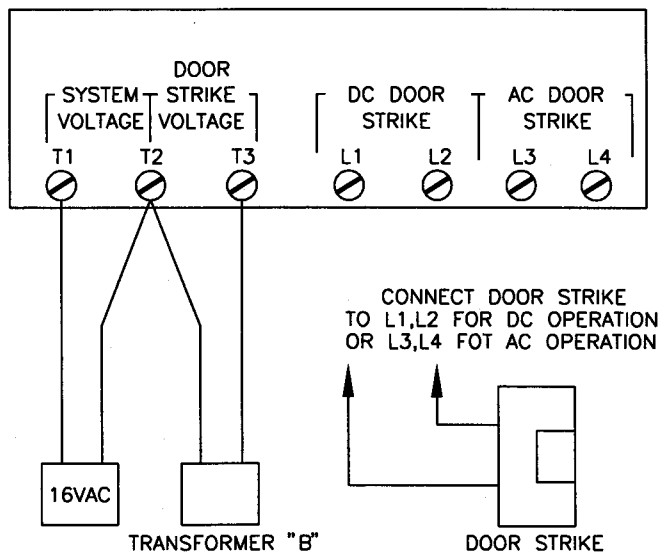

FIG. 4
For AC (buzzing) door strike operation, refer to fig. 4 for wire connections. Select transformer "B" to suit the power requirement of the AC door strike. MIRCOM M-10 door strike requires the 8 VAC output of a PS-3B transformer for operation and transformer "B" is not required. Adjust door timing control for desired door open delay time.
For DC (silent) door strike operation other than with MIRCOM M-10 door strikes, connect 16 VAC to terminals T1, T2 of the amplifier and the required door strike supply voltage as shown in fig. 4. The door fuse on amplifier will burn if the door strike current exceeds 3 A. Use of a higher capacity fuse voids warranty.
3.Connections marked 'X' are wired as per basic connection diagram or optionally as shown in fig.4.
USING A DOOR STRIKE OTHER THAN MIRCOM'S M-10/20, SELECT TRANSFORMER "B" TO SUIT THE POWER REQUIREMENTS OF THE DOOR STRIKE. CONNECT TRANSFORMER "B" TO T2 AND T3. SEE FIG. 4